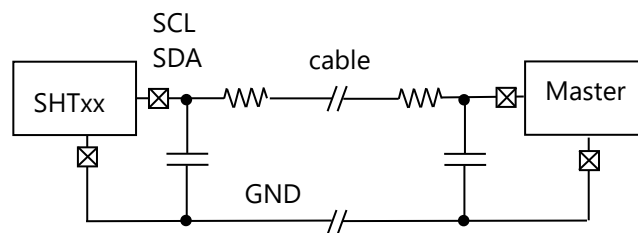

Figure 7. Reducing the slope of SCL and SDA line when using a long cable with the sensor.
- Reduce transmission frequency and slopes of the signals when using long cables. This is to reduce cross talk sensitivity, reflections and susceptibility against bursts. Slopes can be reduced by inserting a passive low pass filter, shown in **Figure 7**. Best results may be achieved when using a low pass filter on either side of the cable connection.